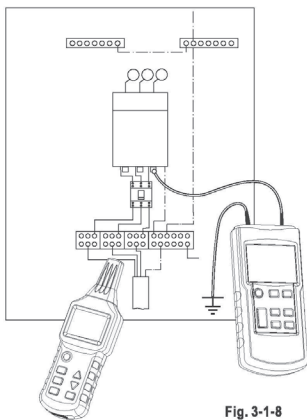

Fig. 3-1-8
- 3) Connect the emitter as shown in Fig. 3-1-8.